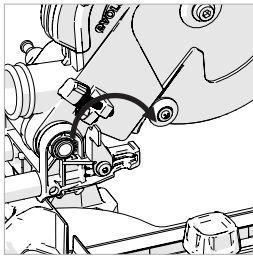

Fig. 26a
- Deploy the depth stop 'stop plate' (**Fig. 26a**) by rotating it forward from its storage position alongside the machine through approximately 150 degrees to its service position.